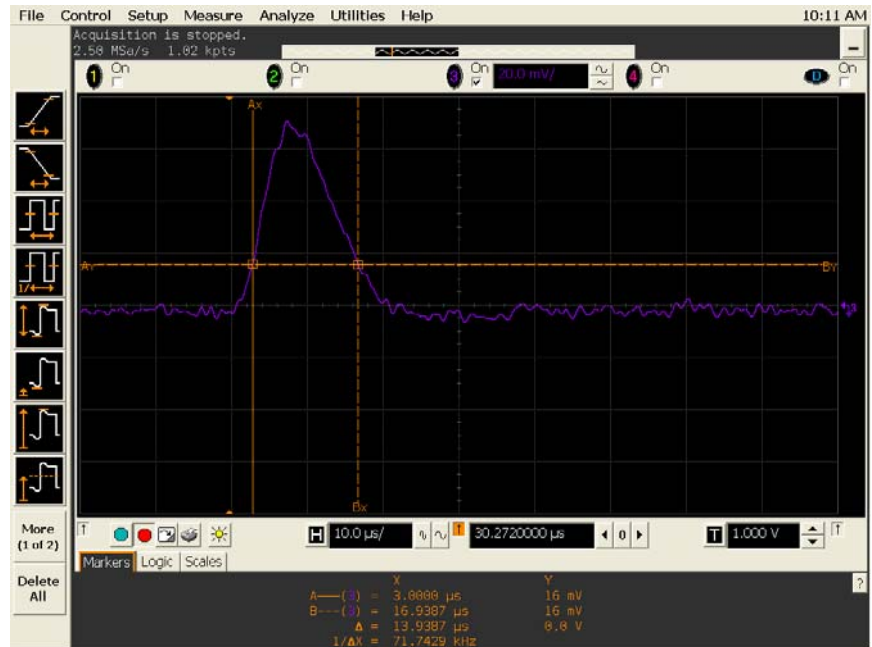

Figure 5-4 Graph of load transient response
- 7 Adjust the oscilloscope to display transients as shown in Figure 5-4. Note that the pulse width (t_2-t_1) of the transients at 15 mV from the base line is no more than 50 μ s for the output.